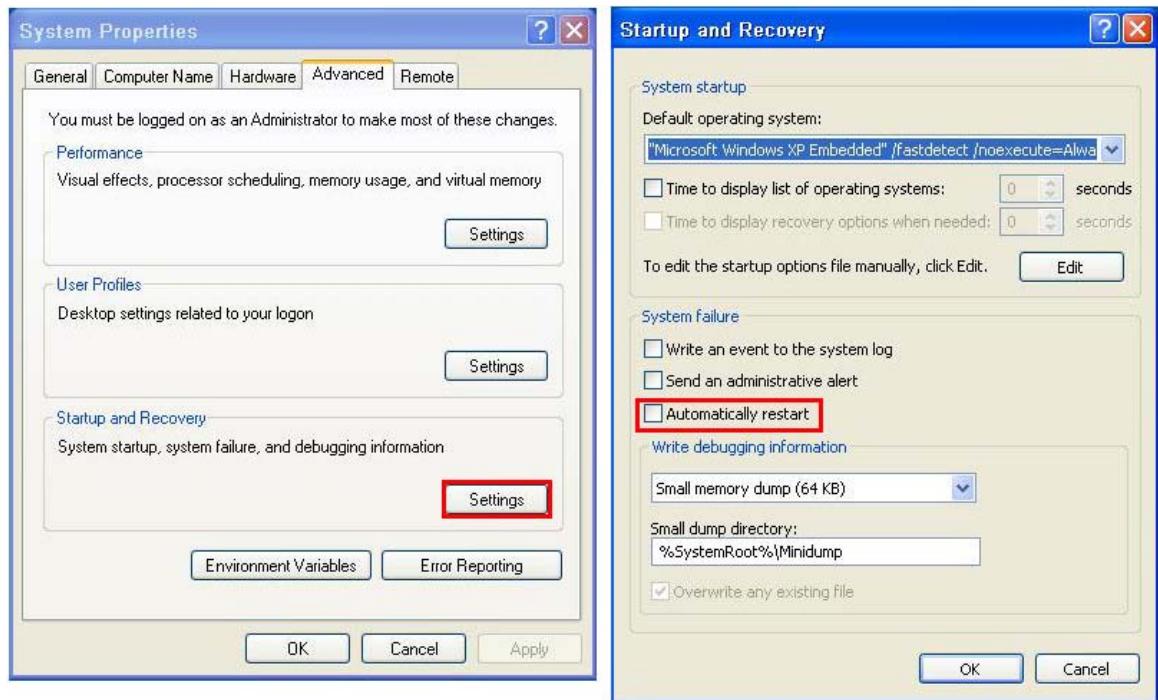

Figure C-23: Disable Automatically Restart
Step 3: **Disable the automatically restart function before creating the factory default image.** Go to: My Computer → Properties → Advanced. Click the Settings button of Startup and Recovery. Deselect “Automatically restart”. Click OK to save the settings and exit. (See **Figure C-23**)